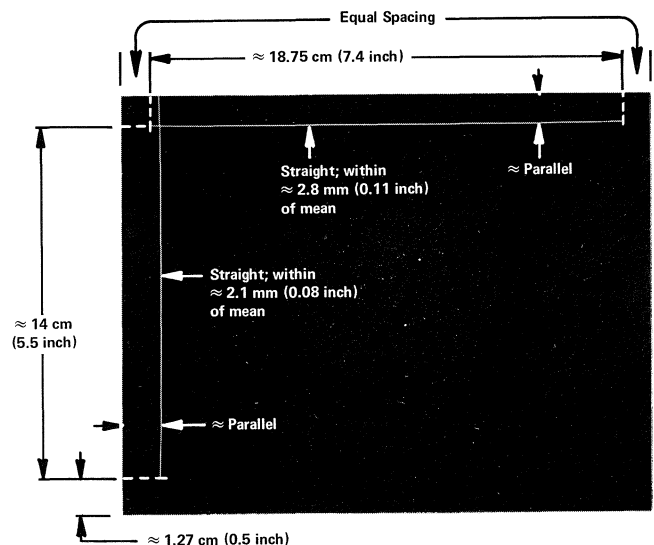

Fig. 4-8. Display Positioning, Using Cross-hair Cursor.
e. Check display positioning. It should meet the following requirements (see Fig. 4-8):
(1) Adjust X POS for approximate left-right centering of horizontal line.
(2) Adjust Y POS to approximately center the vertical line segment described by its lower end and the point of intercept with the horizontal line (vertical thumbwheel at upper limit). See Fig. 4-8.